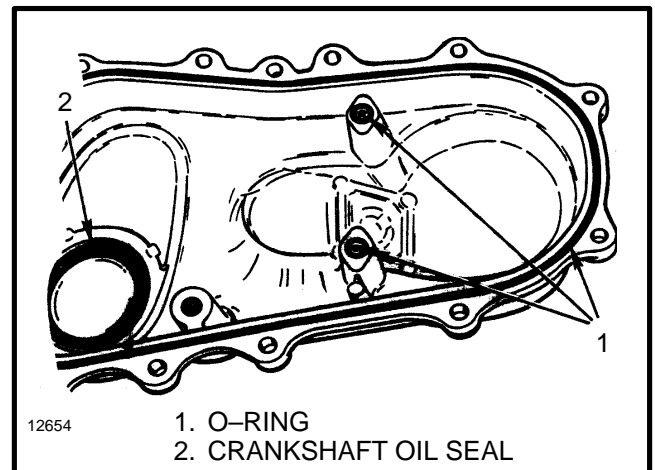

FIGURE 27. TIMING GEAR COVER
- b. Install new O-rings in the timing gear cover. See FIGURE 27.